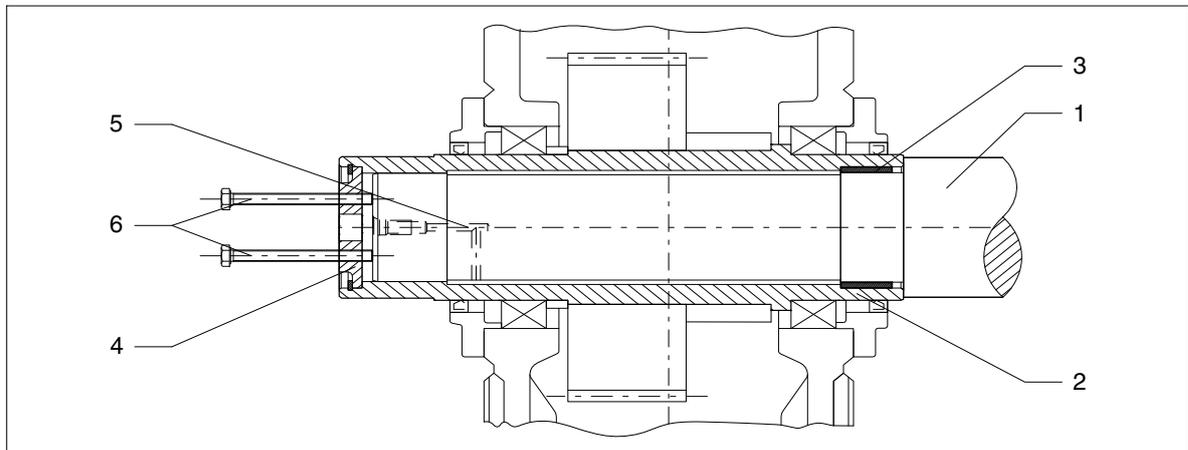

Fig. 44: Hollow shaft with shrink disk, demounting with end plate
- Depending on the facilities available on site, the gear unit may be forced off the shaft using forcing screws in an end plate (see fig. 44), a central threaded spindle or preferably a hydraulic lifting unit ("Lukas").